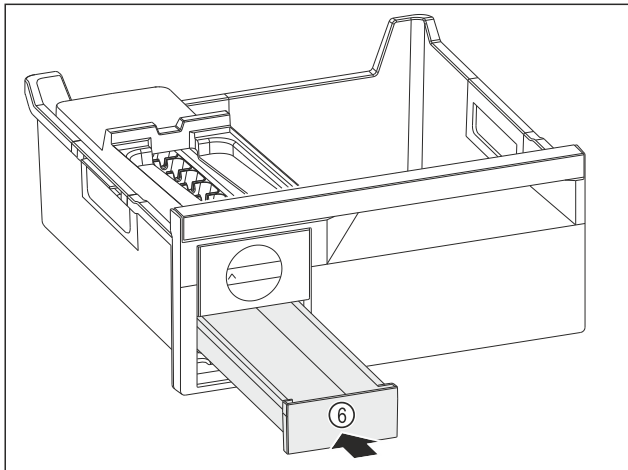

Fig. 150
- ▶ Insert the ice cube drawer Fig. 150 (6).